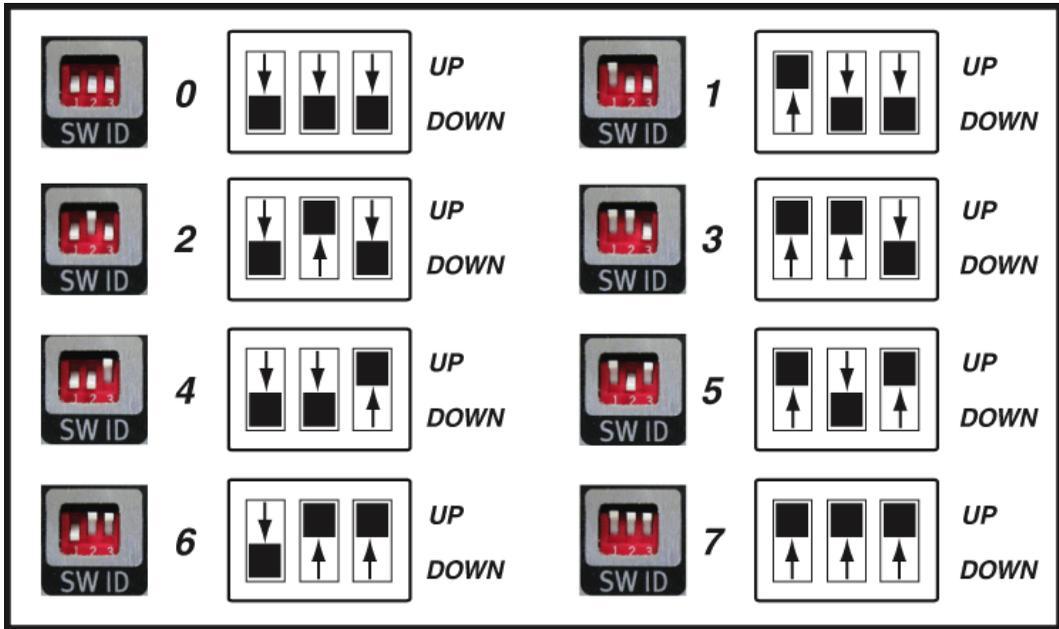

Figure 8 ISS-5116 DIP Switch
- 2 Select and record the **DIP switch position** (Figure 8 and Table 7) to be assigned to the ISS-5116.